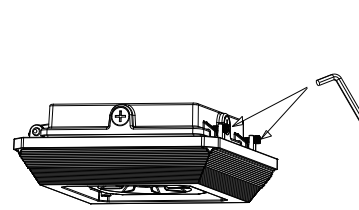

FIGURE 1-1
1. Disassemble the driver box cover by loosen the two screws on the driver box (Figure 1-1)